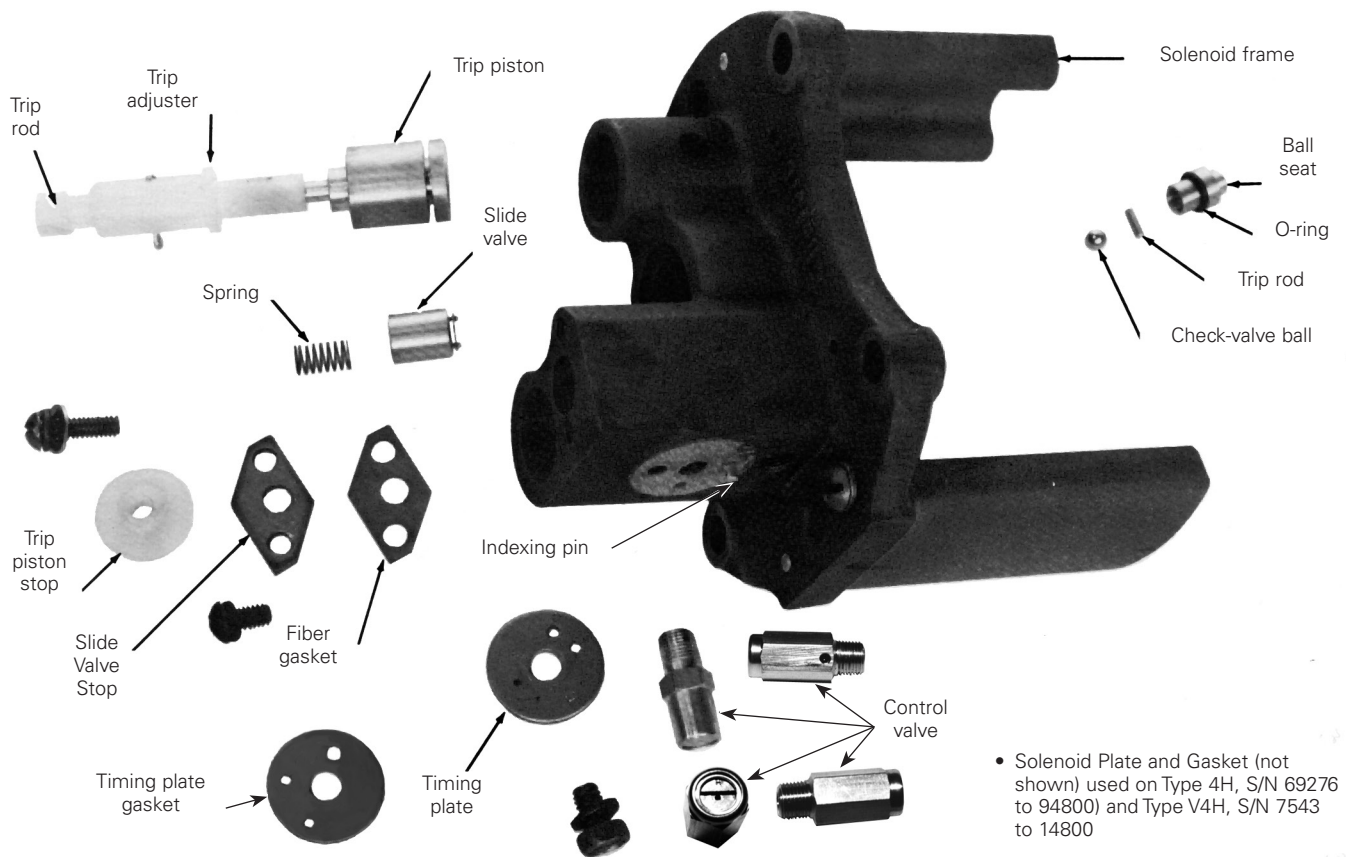

Figure 22. Disassembled solenoid frame and hydraulic mechanism
- B. Insert a thin metal plate through the spring to release the spring tension on the ball-seat pin as shown in Figure 22.
- C. Reinstall o-ring gasket on ball seat, replace check-valve ball, and pin the assembly to the spring (see Figure 22).